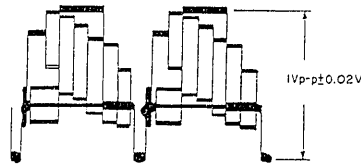

Fig. 4-105
(1) AGC Adjustment (Figs. 4-105, 4-151)